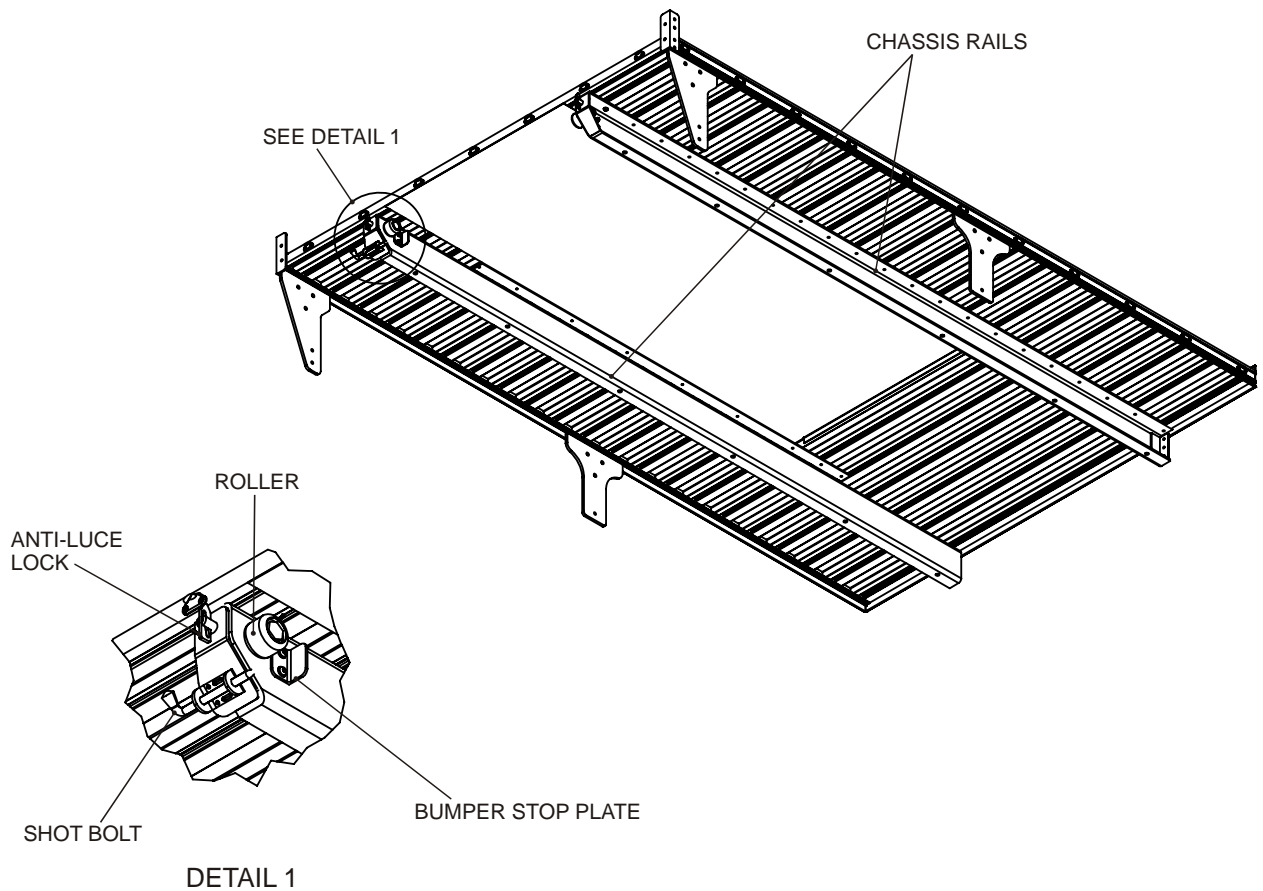

Figure 5 Under Tray Drawer Chassis Rails and Locking Devices
16. Remove under tray drawer (see Figure 5):
18. Remove under tray rollers (see Figure 5):